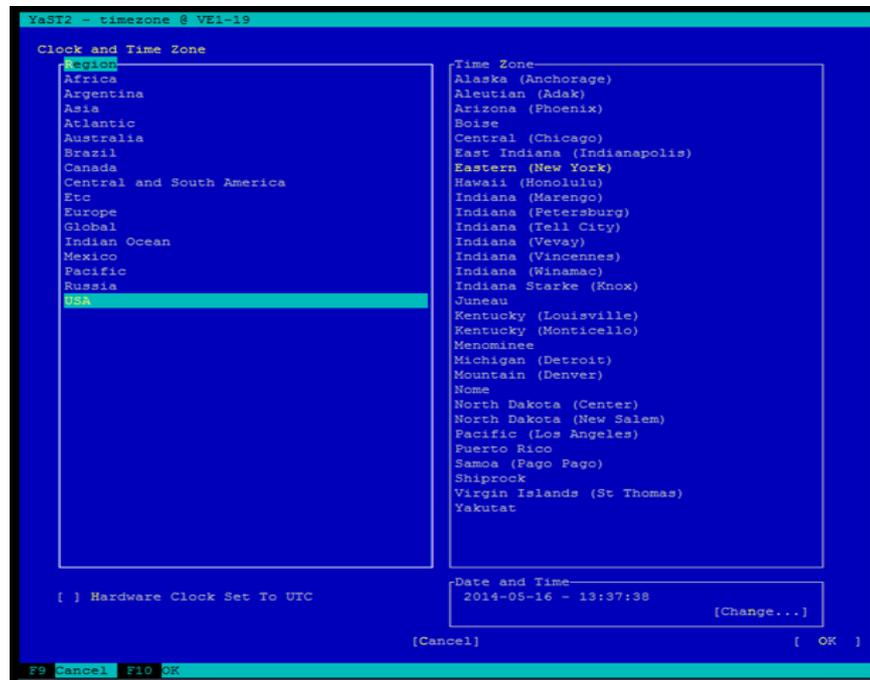
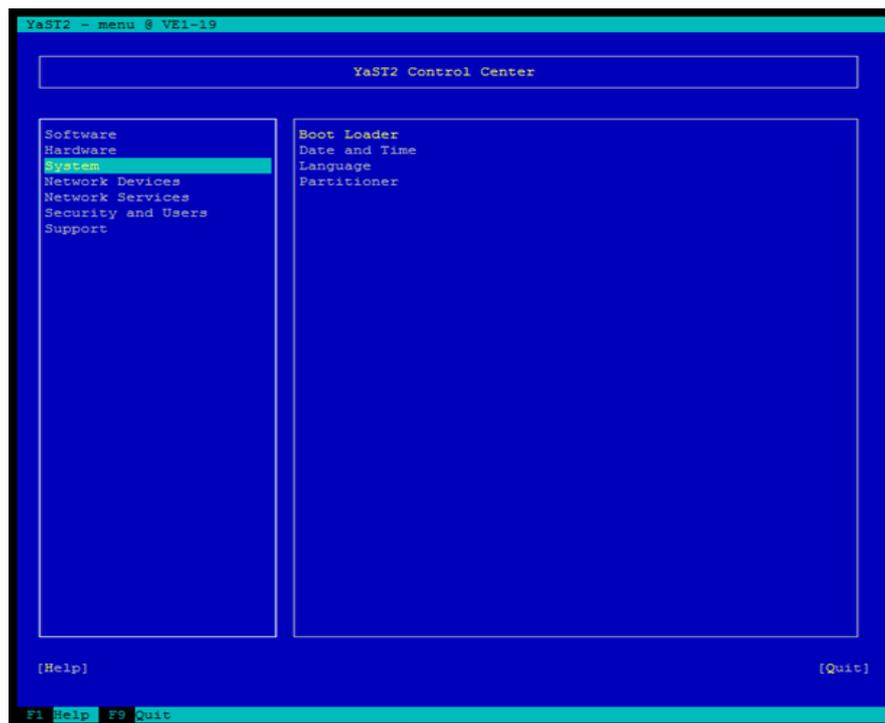

Figure 157 Clock and Time Zone screen
Figure 158 YaST2 Control Center
8. In the Clock and Time Zone screen, make the desired changes, as shown in Figure 157 on page 127. When you are done, use **Tab**, **Alt-O**, or **F10** for **OK**. This step takes you to the original page of the YaST2 Tool, as shown in Figure 158 on page 127.